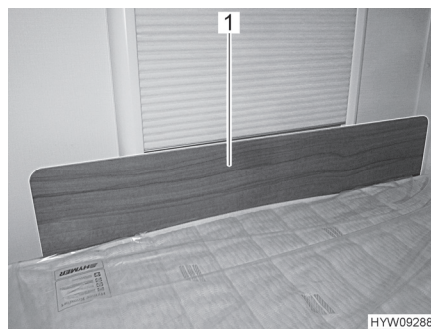

Fig. 103 Protective panel / fall out protection
- Plug in the protective panel (Fig. 103,1) in front of the window, between mattress and window frame. The clamping effect of the mattress holds the protective panel in its position in front of the window frame.